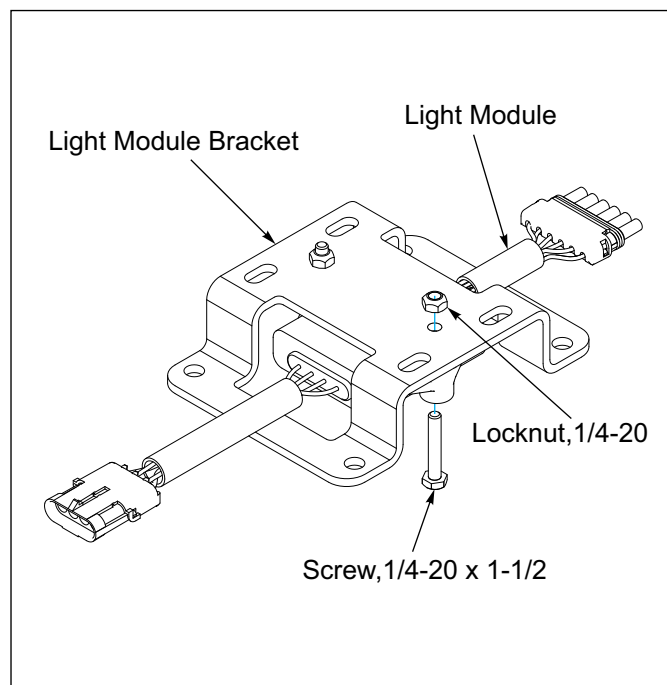

Figure 2-25: LED Module and Bracket
5. Attach the Light Module to the Light Module Bracket using two 1/4-20 X 1-1/2 Screws and Locknuts. **See Figure 2-25.**